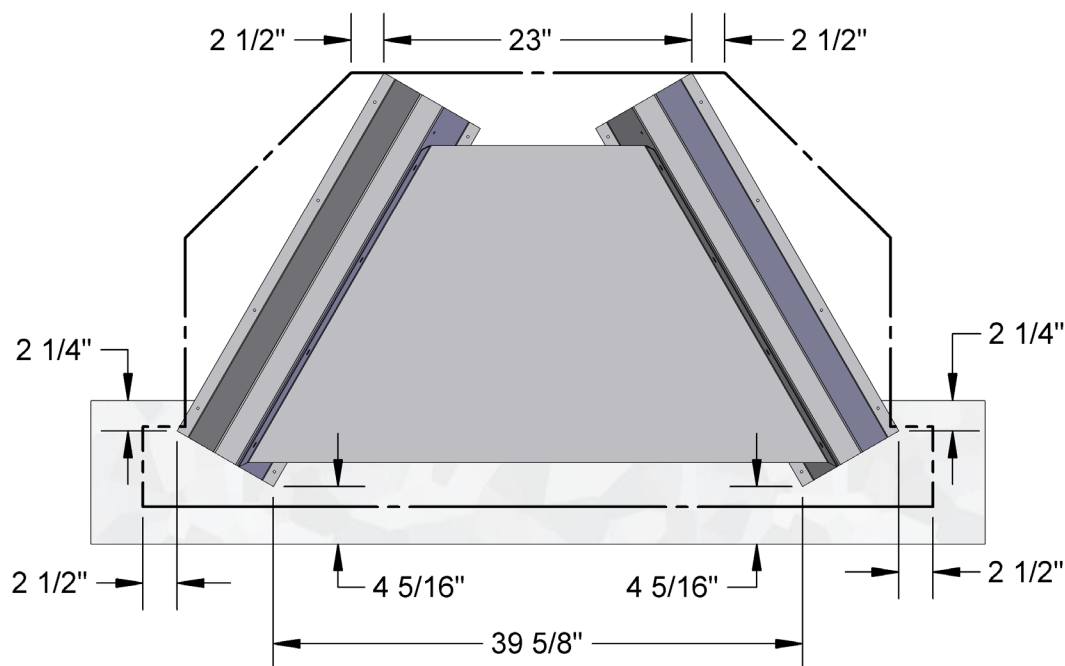

FIGURE 8 POSITIONING THE FIREPLACE BOTTOM STANDOFF AND SPARK GUARD
3. Position the bottom standoff on the floor along with the spark guard. Use Figure 8 to help in properly locating the bottom standoff and the spark guard based on the silhouette of the entire fireplace which includes the back and angled sides' standoffs.
5. Install the fireplace on the fireplace bottom standoff making sure that the base of the fireplace is aligned with the bottom standoff as shown in Figure 8.
The spark guard position in Figure 8 will ensure that it is 2½" under the fireplace base and 2½" under the hearth extension, centered on the fireplace opening. It is dimensioned so that it will also cover the entire floor area under the metal front step of the fireplace. This guard prevents sparks from lodging in this area and starting a fire. See "Hearth Extension Requirements" on page 24.